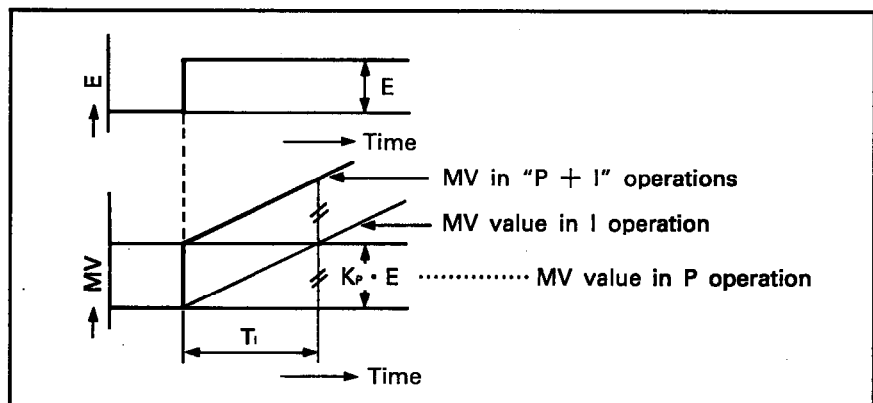

Fig. 4.3 Integrating Operation with a Constant Error
- (1) In the integrating operation, the MV (manipulated value) changes continuously to zero an error, if an error exists. This operation can eliminate the offset that is unavoidable in the proportionate operation.
- (2) The time required for the MV in the integrating operation to reach the MV for the proportionate operation after the generation of an error is called the integrating time. Integrating time is expressed as T_i . The smaller the setting for T_i , the greater the integrating operation will become.
- (3) The integrating operation in step response with a constant E (error) is illustrated in Fig. 4.3.